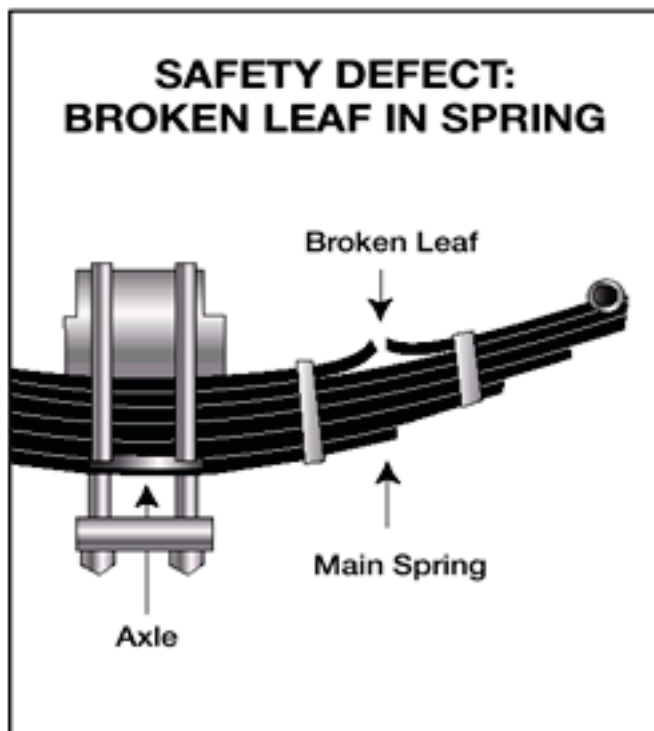

Figure 2.3
- ✓ Missing or broken leaves in any leaf spring. If one-fourth or more are missing, it will put the vehicle "out of service", but any defect could be dangerous. See Figure 2.3.